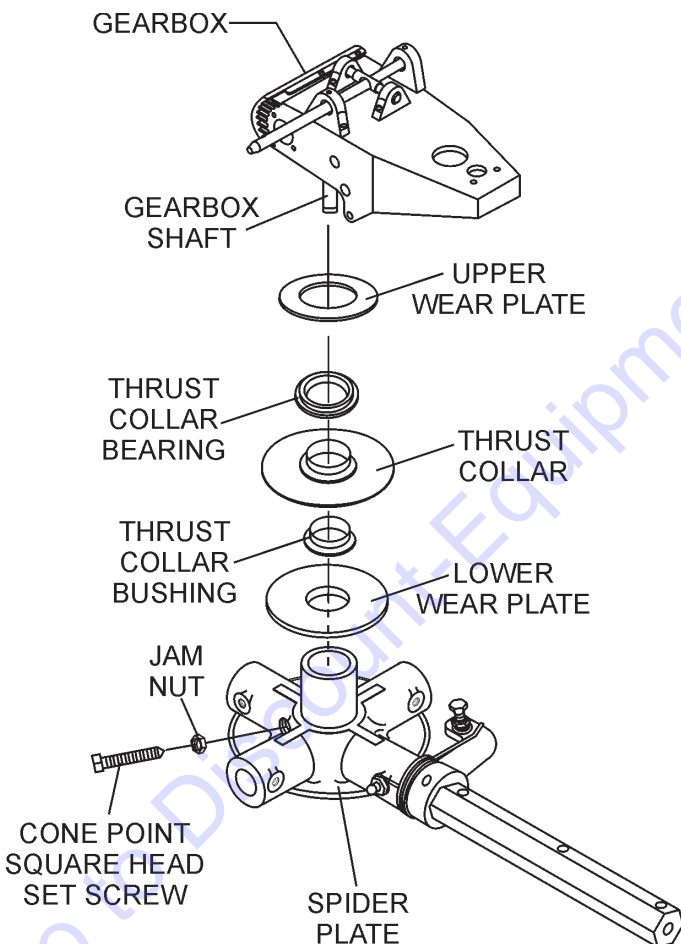

Figure 20. Spider/Gearbox Removal
- a. Locate the cone point square head set screw (Figure 20) and attached jam nut found on the side of the spider assembly.